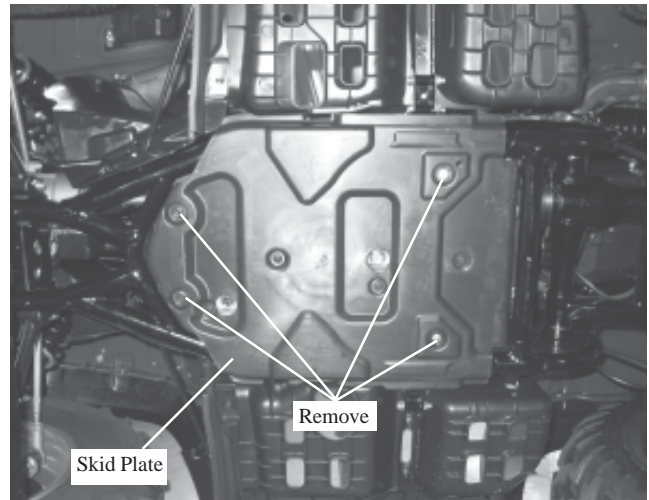

Figure 1
1. Remove the four skid plate bolts, and remove the skid plate from the vehicle, Figure 1.